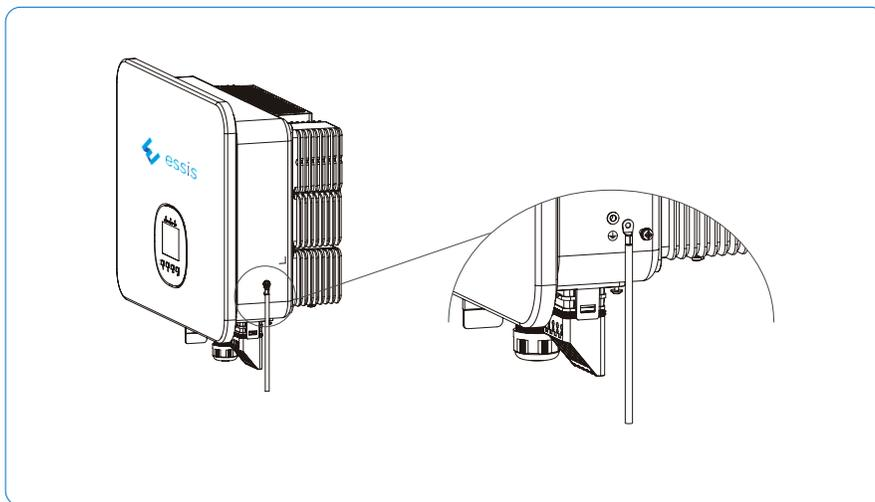

Figure 5-4 Grounding terminal connection
- 2) Fix the grounding terminal to the PE wire with a proper tool and lock the grounding terminal to the grounding hole in the lower right side of the inverter, as shown in Figure 5-4.